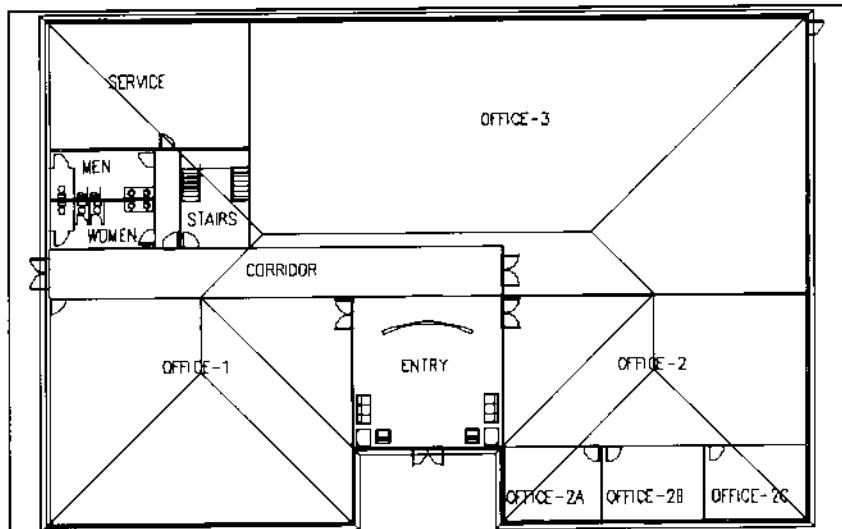

Figure 1.
2. Open the completed SESSION7 drawing from Session 7 as shown in Figure 1.